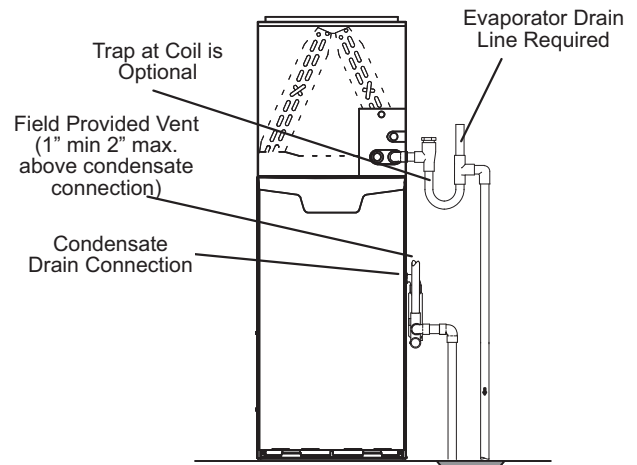
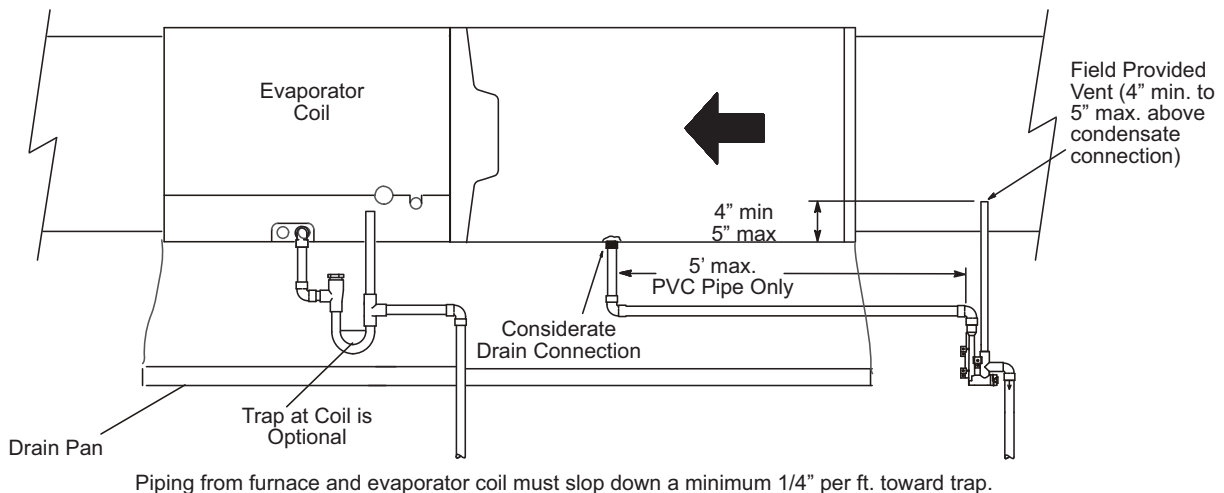
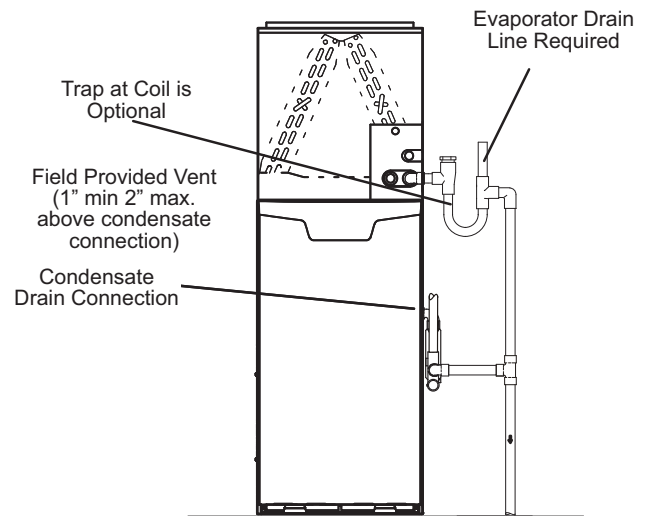
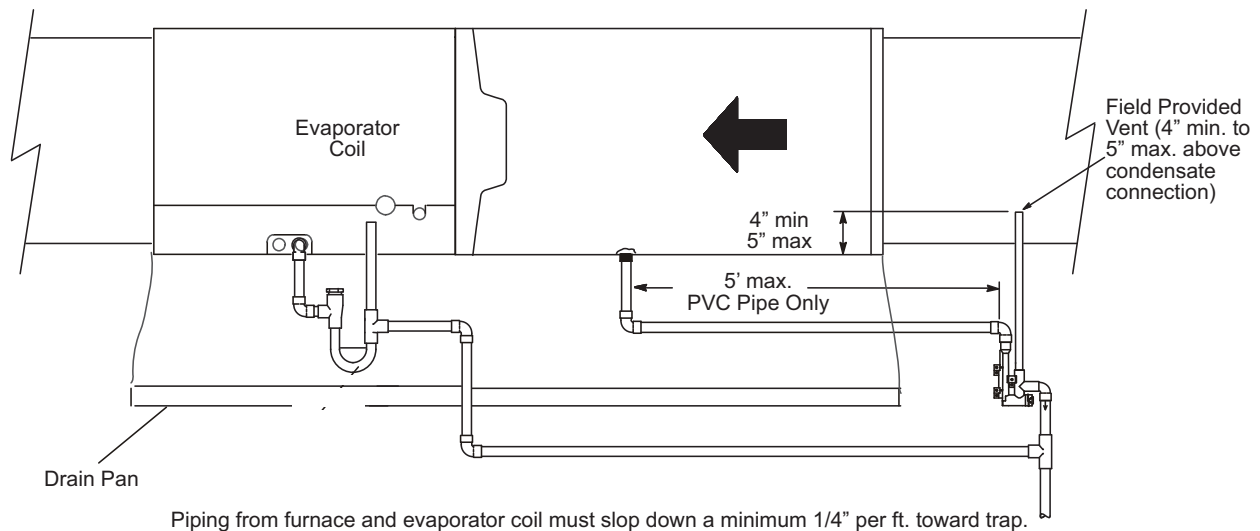

Figure 44. Unit with Cooling Coil Using Separate Drain
Figure 45. Evaporator Coil Using a Separate Drain
Figure 47. Furnace with Evaporator Coil Using a Common Drain
Figure 48. Evaporator Coil Using a Common Drain
5. **Figure 44** and **Figure 45** show the furnace and evaporator coil using a separate drain. If necessary the condensate line from the furnace and evaporator coil can drain together. See **Figure 47** and **Figure 48**.
Upflow furnace (**Figure 44** and **Figure 47**) - In upflow furnace applications the field provided vent must be a minimum 1" to a maximum 2" length above the condensate drain outlet connection. Any length above 2" may result in a flooded heat exchanger if the combined primary drain line were to become restricted.
Horizontal furnace (**Figure 45** and **Figure 48**) - In horizontal furnace applications the field provided vent must be a minimum 4" to a maximum 5" length above the condensate drain outlet connection. Any length above 5" may result in a flooded heat exchanger if the combined primary drain line were to become restricted.